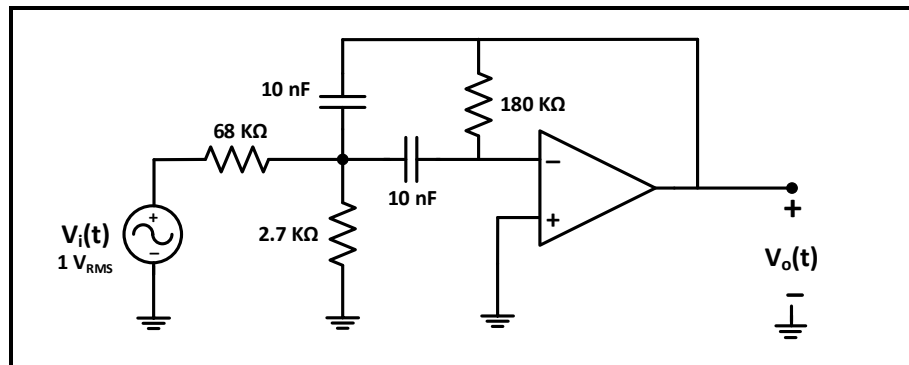
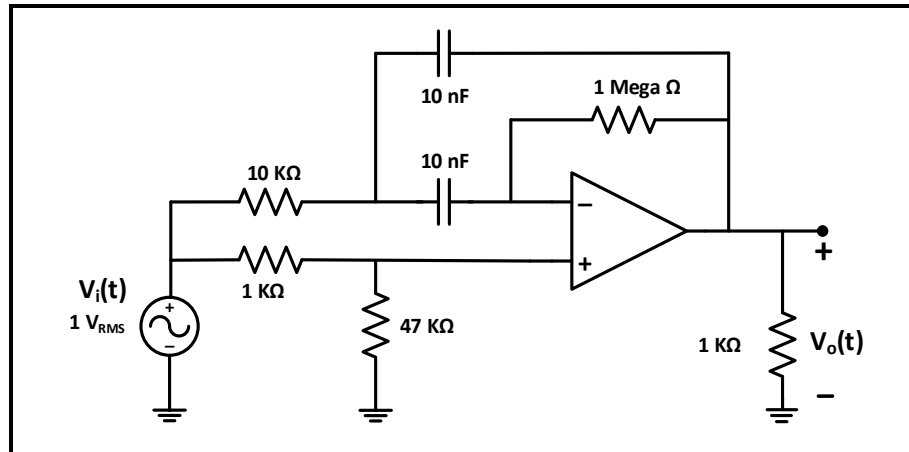

Figure 10.9: Active band pass filter
Figure 10.10: Active band reject filter
4. Calculate the resonant/center frequency and the two cut-off frequencies for the band-pass and band-reject filter circuits given in Figure 10.9 and Figure 10.10.
- Connect the circuit of Figure 10.9, with a sinusoidal input voltage at $1 V_{RMS}$.
- Connect the circuit of Figure 10.10, with a sinusoidal input voltage at $1 V_{RMS}$.